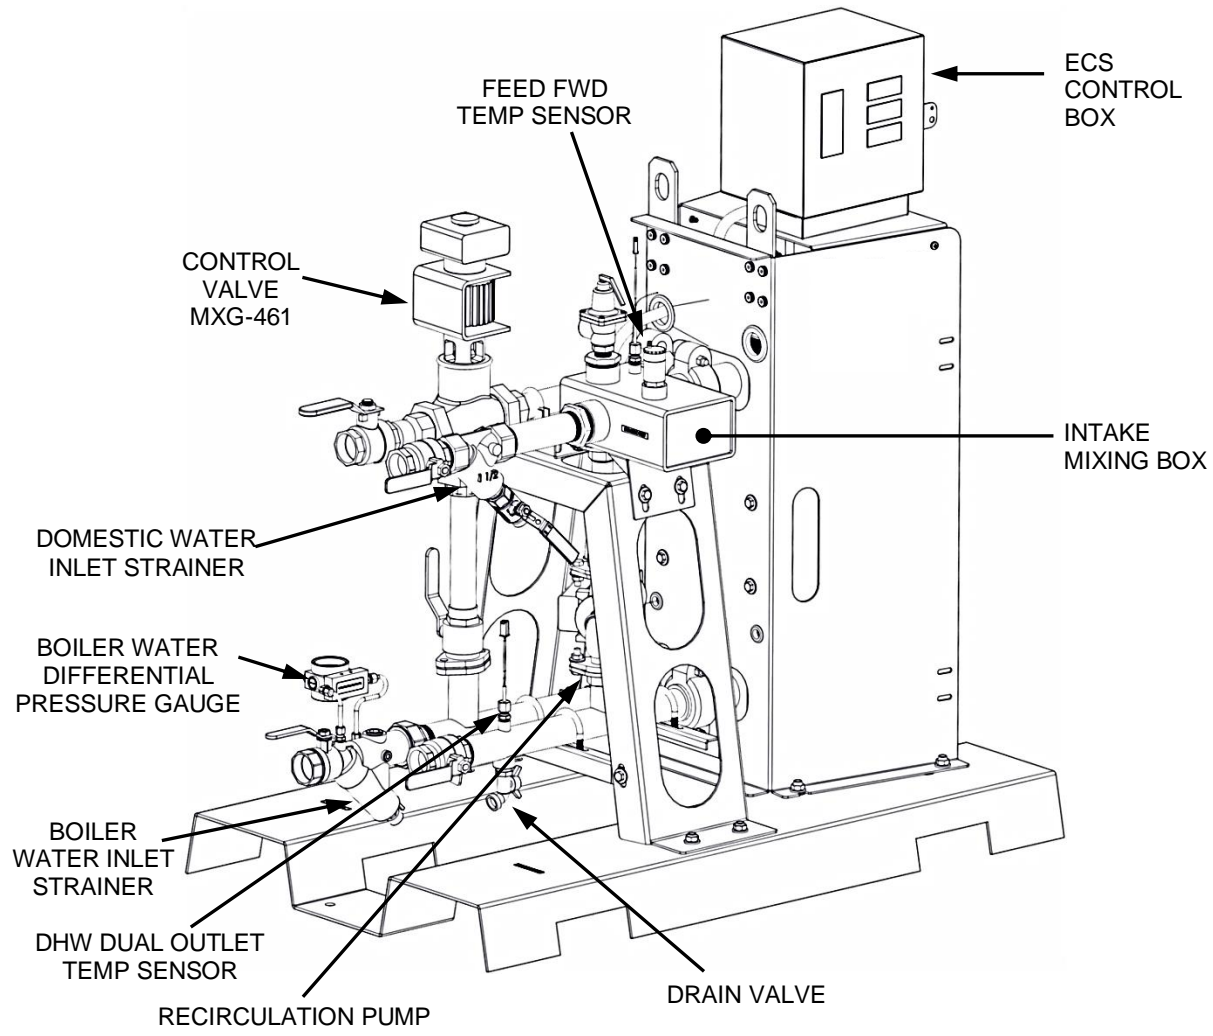

Figure 6-1. Location of Components for Scheduled Maintenance
1. Refer to Figure 6-1 and locate the Differential Pressure Gauge.
4. Disconnect and remove the Single Feed-Forward Sensor from the Mixing Box and the Dual Outlet Temperature Sensor from the DHW Outlet Port (Figure 6-1).